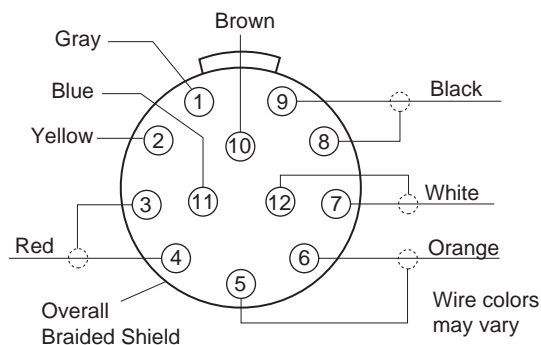

Figure 4-4. Pin Locations for Camera Cable Connector (12-Pin Hirose Male)
For special applications, this connector will mate with a Hirose Male Plug HR10A-10P-12P (user-supplied) or similar plug. See Figure 4-4 for pin locations.
- Connector at controller end: 12-Pin Hirose Male, HR10A-10P-12P, with ground terminal lug (shield). See Figure 4-4 for pin locations.